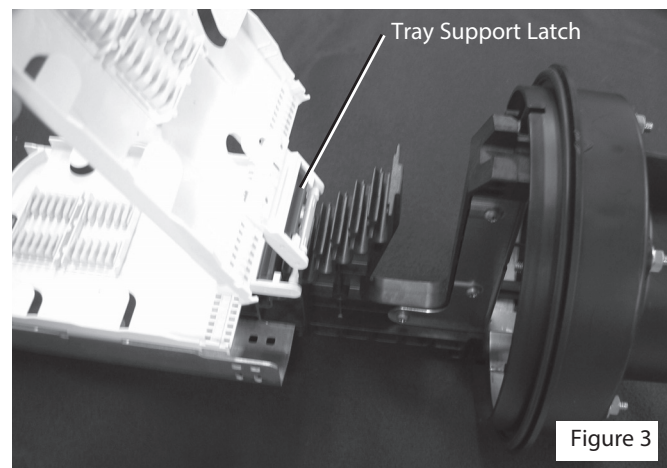

Figure 3
1. Hold the tray vertically over the tray holder bracket, and insert the tray hinge into the next unoccupied slot on the tray holder bracket. Lift the red tray support latch up to lower the tray. (Figure 3)